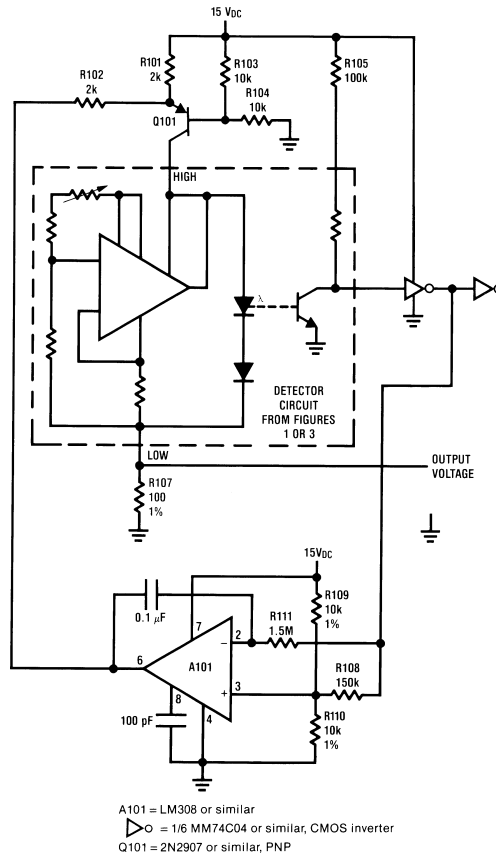
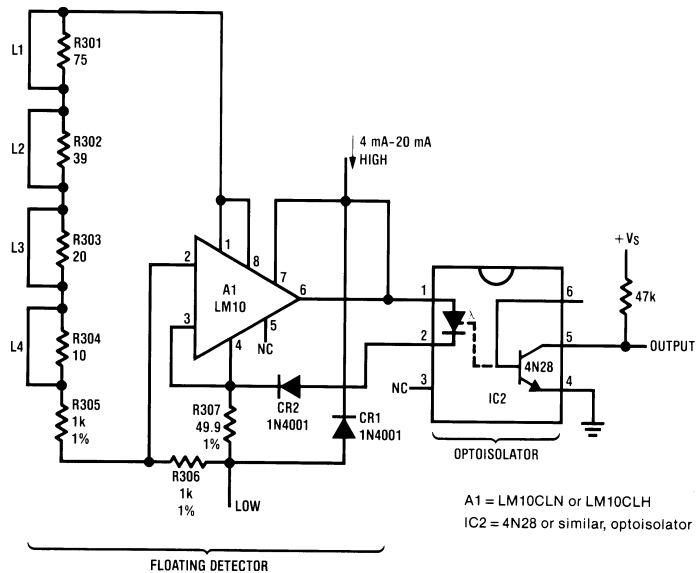

FIGURE 2. Test Circuit for Threshold Detector
FIGURE 3. Fault Detector with Low-Cost Trim Scheme
Disconnect this capacitor when using with circuit of Figure 2.
While you could manually adjust R1 while observing the status of V3 output, this would be a coarse and awkward trim procedure. Figure 2 shows an improved test circuit which serves the current through the detector circuit, forcing it to be
The test circuit of Figure 2 is necessary for trimming the detector in Figure 3. This circuit does not have a trim pot, and thus avoids the problem of someone mis-adjusting the circuit after it is once trimmed correctly. It also avoids the compromises between good but expensive trim pots and cheap but unreliable, drifts trim pots. By opening one or more of the links, L1–L4, according to the following procedure, it is easy to trim the threshold level to be within 1% of 3.70 mA (or as desired).
- Observe the DC current through R107 in Figure 2
(To be trimmed in the circuit of Figure 2)
When trimming this circuit with the circuit of Figure 2, use R101 = R102 = 820Ω